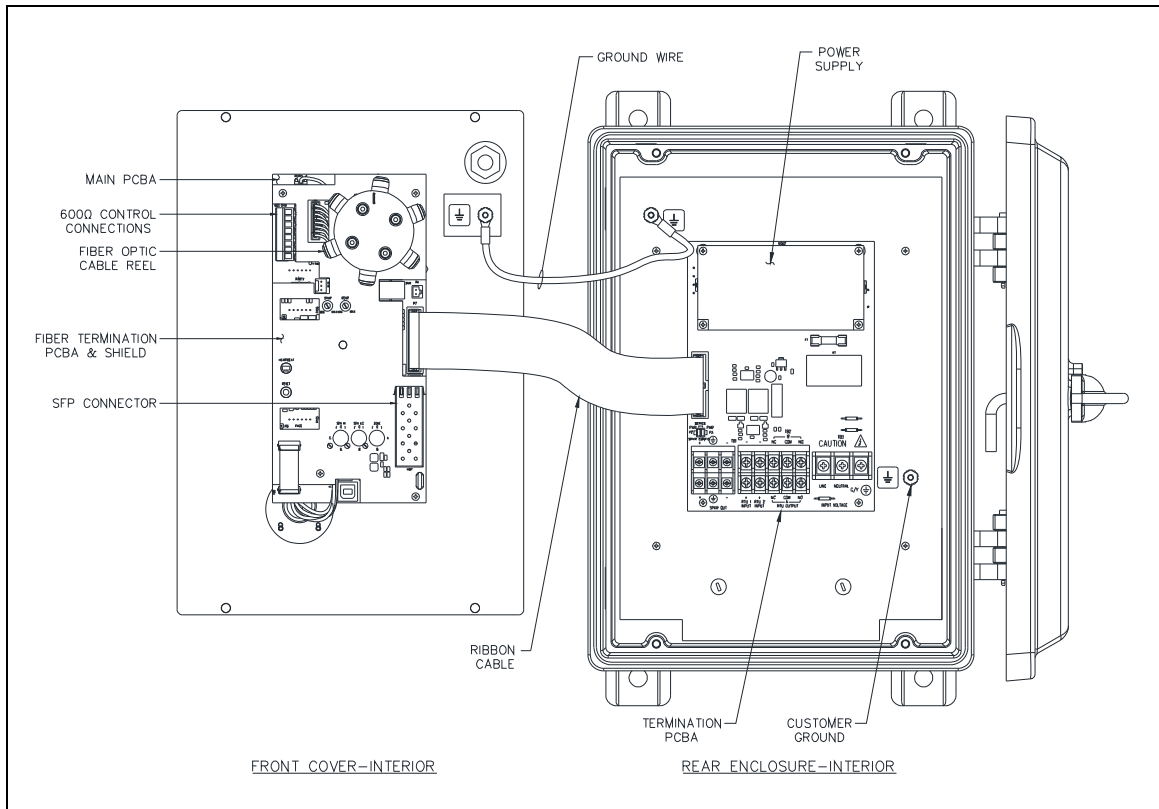

Figure 3. SP2 Fiber Weatherproof Class I Div. 2 Station—Interior View
2. Secure it to the ground terminal located in the lower right corner at the back of the rear enclosure (see Figure 3).